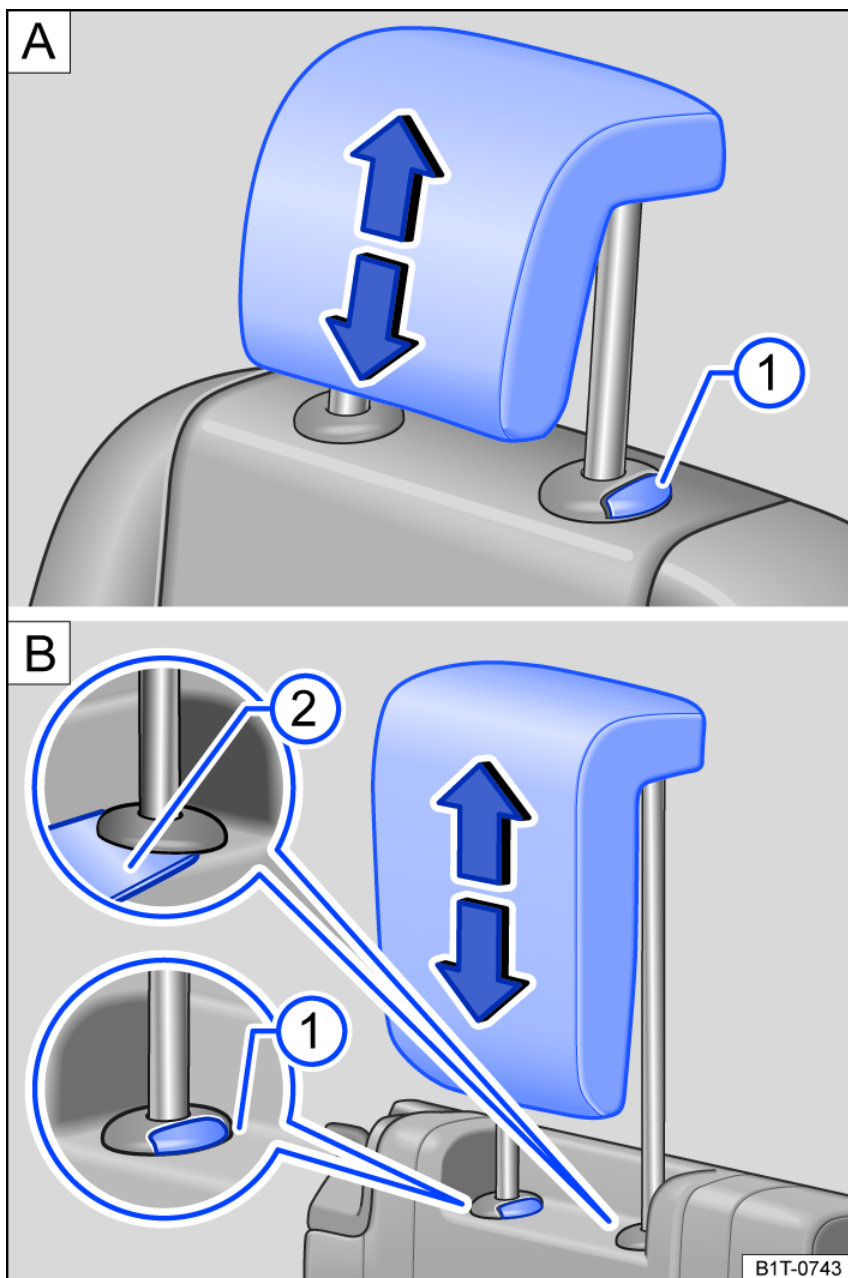

Fig. 89 Rear head restraint: Removing.
- Pull the head restraint all the way out while pressing the **A** *fig. 89* button.
- To assist release where necessary, insert a flat object, e.g. a plastic card **B** *fig. 89* between the backrest cover and the cap of the head restraint guide pin.
- Pull the head restraint all the way out while pressing the **B** *fig. 89* button.
- Push the head restraint downward while pressing the *fig. 89* button.